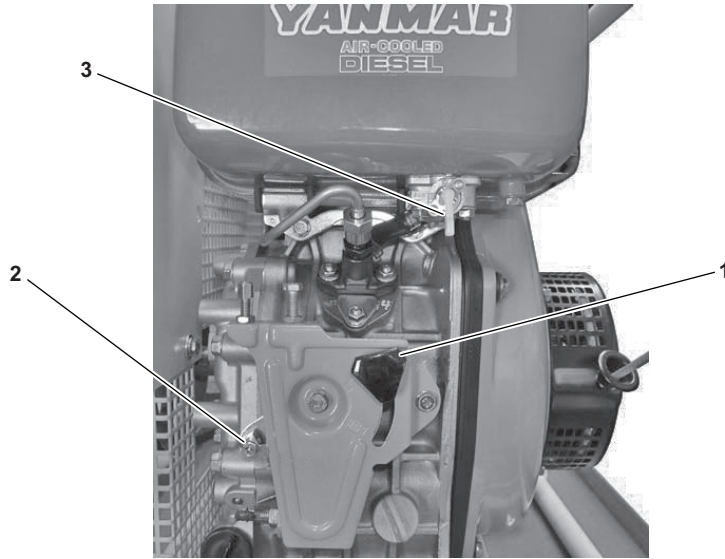

Figure 2-23. Fuel Valve, START/STOP Control Knob, and Lock Lever
- a. Turn off the diesel engine by loosening slightly the START/STOP control knob (figure 2-23, item 1) and then move the START/STOP control knob to the STOP position, moving the START/STOP control lock lever (figure 2-23, item 2) if necessary. Tighten the START/STOP control knob.
- b. Close the fuel valve (figure 2-23, item 3) by turning the valve CCW 1/4 turn to the S (stop) position.